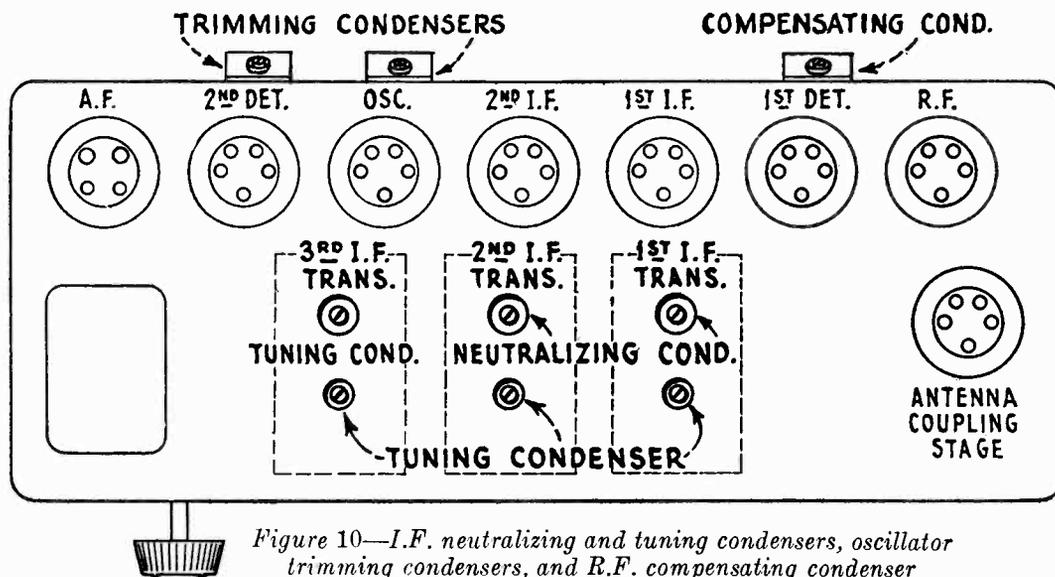

Figure 10—*I.F. neutralizing and tuning condensers, oscillator trimming condensers, and R.F. compensating condenser*
- (a) Adjust the tuning condensers successively on the third, second and first I.F. transformers (Figures 10 and 11), for maximum signal in the loudspeaker and maximum reading on the milliammeter. If pointer should go off milliammeter scale reduce the volume control. After making one adjustment on the transformers it is a good plan to repeat, as slight changes may have occurred in tuning the other circuits. No signal, or a loud howl indicates neutralizing condensers are out of adjustment and they should be readjusted.